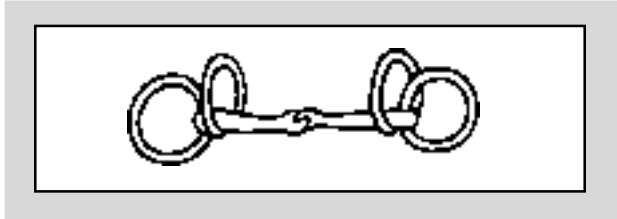

Figure 21. Wilson—Traditional Jointed Mouthpiece.
- **Wilson.** Traditional driving snaffle (see Figure 21). Has broken mouthpiece and four rings, usually the same size, which can provide three rein positions. The least severe is the rein around both rings, next around the outer ring on one side, then to the outer rings on both sides.